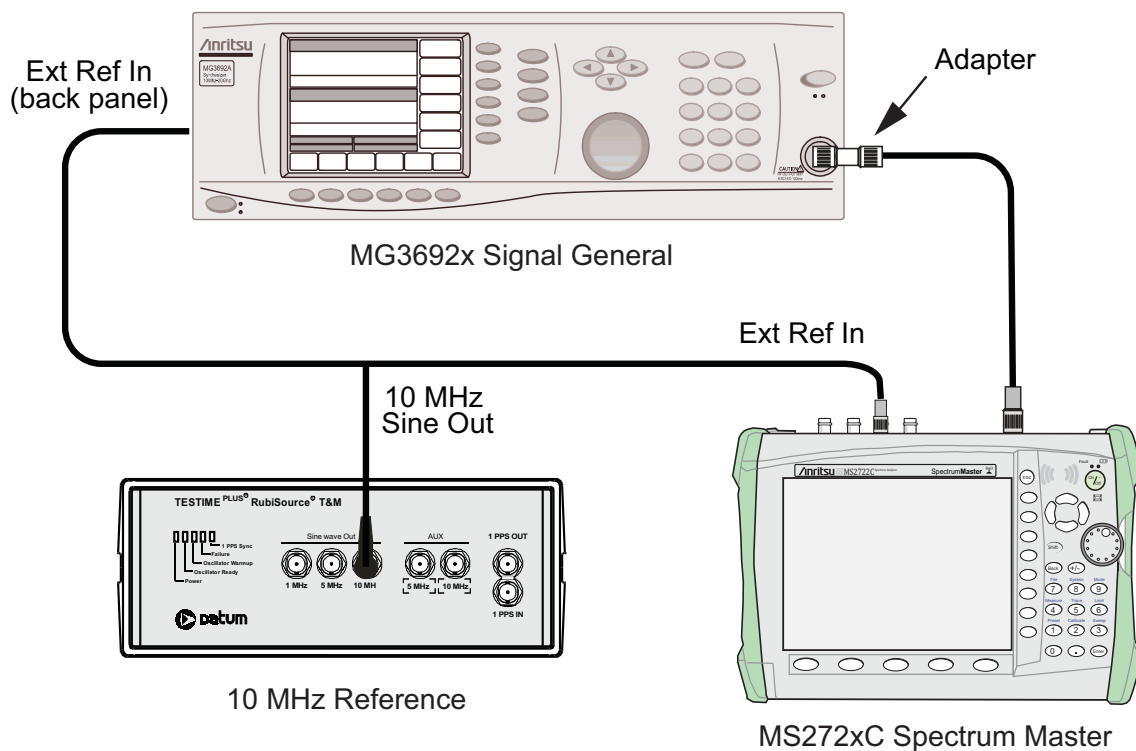

Figure 2-1. Resolution Bandwidth Accuracy Test Setup
1. Connect the external 10 MHz Reference both to the MG3692x or MG3695C Synthesized Signal Generator and to the Spectrum Master MS272xC, as shown in Figure 2-1.
2. Set the MS272xC to Spectrum Analyzer mode and then Preset the instrument. Press the **Shift** key, the **Sweep** (3) key, **Sweep Mode** submenu key and then the **Performance** submenu key.
8. Under the **Measure** menu, press (**Shift** (4), press OCC BW and set it to On.